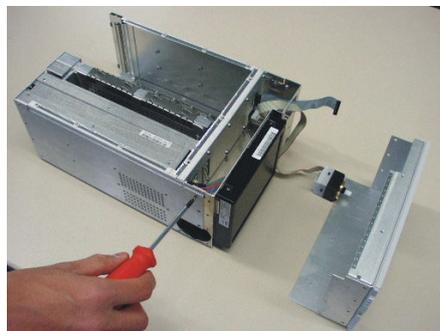

Figure 1-22
8. Undo 5 special screws on side (see Figure 1-22) and lower 2 special screws (see Figure 1-23).